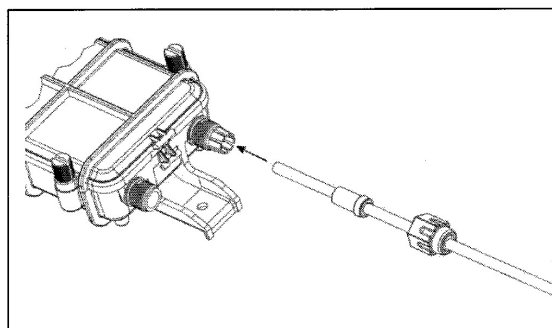

Figure 3. Fiber installation at ingress/egress port
- ① Detach the top cover by unscrewing the four thumb screws.
- ② If the cable being used includes a trace or toner wire, mark the cable 24 inches from the end and separate the trace wire from the fiber optic cable. Place some sleeving or electrical tape around the cable to keep the trace wire from continuing to separate.
- ③ Select the grommet from the parts bag that most closely matches the fiber cable shape. Pair the grommet with the appropriate port nut as shown in Table 1. Feed the fiber through the nut and grommet as shown in Figure 3. Be sure the nut and grommet are facing in the correct direction.
- ④ Feed the fiber through the ingress port up to the grommet. Push the grommet into the port. Ensure the grommet is fully seated by pulling the fiber from the inside of the enclosure while pushing the grommet into the port. Tighten the nut.